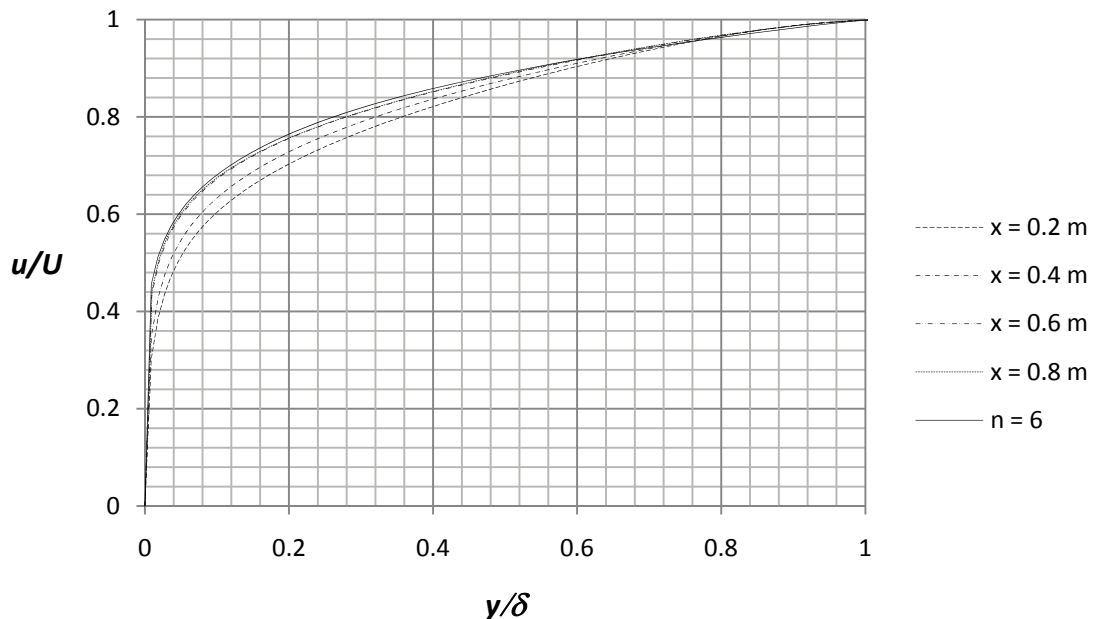

Figure 2.31 The same profiles as in figure 2.30a) compared with one-sixth power law for turbulent profile.
33. Place the file “xy-plot figure 2.31” into the **Local Disk (C:)/Program Files /SolidWorks Corp/SolidWorks Flow Simulation/lang/english/template/XY-Plots** folder to make it available in the **Template** list. Repeat step 24 and choose the sketch $x = 0.2, 0.4, 0.6, 0.8$ m and check the box for **X-Component of Velocity**. Rename the xy-plot to **Comparison with One-Sixth Power Law**. An Excel file will open with figure 2.31. In figure 2.31 we compare the results from Flow Simulation with the turbulent profile for $n = 6$. The power –law turbulent profiles suggested by Prandtl are given by
It is seen that for the higher Reynolds numbers in figure 2.31, that the velocity profiles resembles the one-sixth power law.